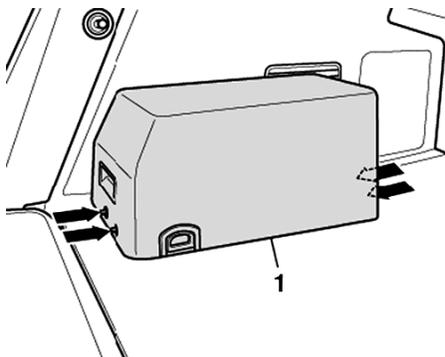

Fig. 1 Battery cover removal
4. Turn latches (arrows) counterclockwise and remove from battery cover (1), Fig. 1.